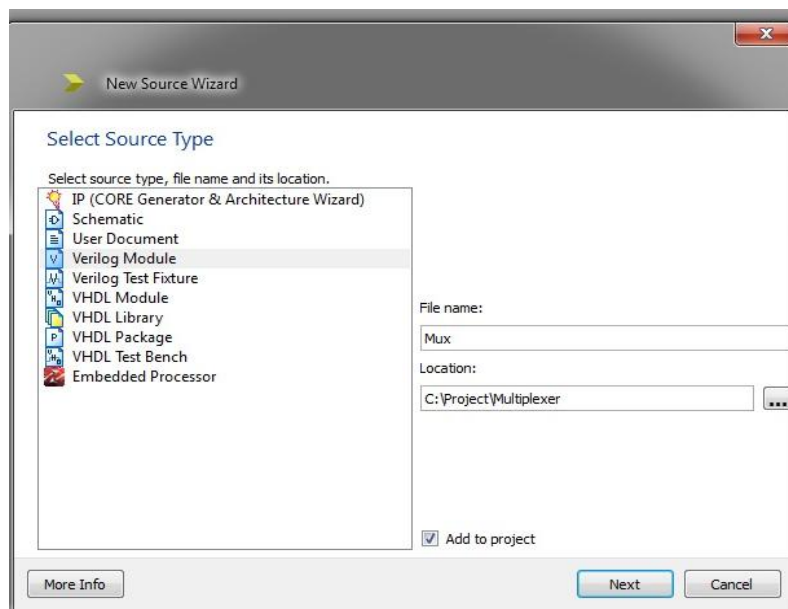

Fig 2.5: New Source Wizard
6. Now in the ISE Project Navigator Environment, select **Project -> New Source**. Select **Verilog Module** as the **Source Type** and enter a name “Mux” for the new source in the **File Name** field (Fig 2.5). Click **Next**.